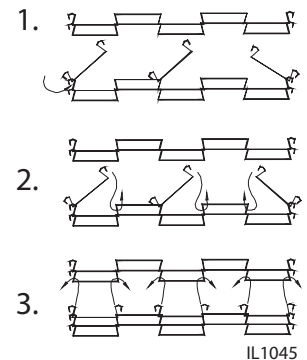

Fig 1. Master Links
3. Heavily soiled conveyor surfaces, 214 models locate all 3 of the Master Links on the conveyor belt. Follow the step 1 in Fig 1, to remove all of the Master Links.
9. 214 models, Reinstall the previously removed master links as shown in steps 2 & 3 in Fig. 1.